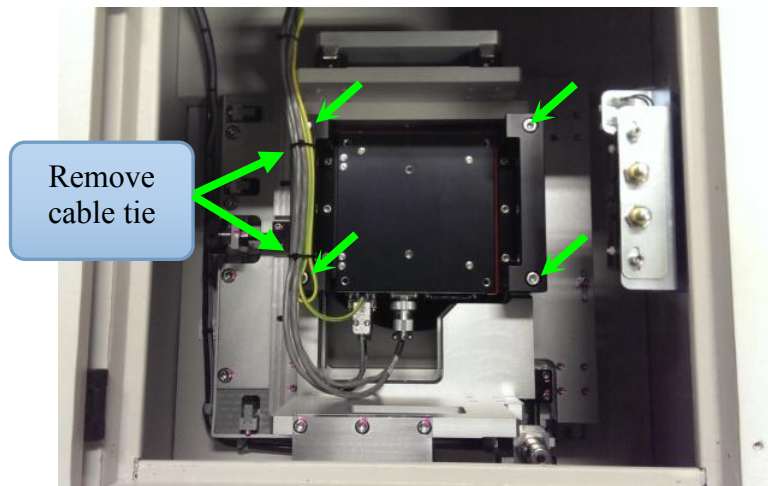

Figure 12
13. Assemble new tube into machine and tighten 4 pcs of SHCS M6×60 as Figure 12.